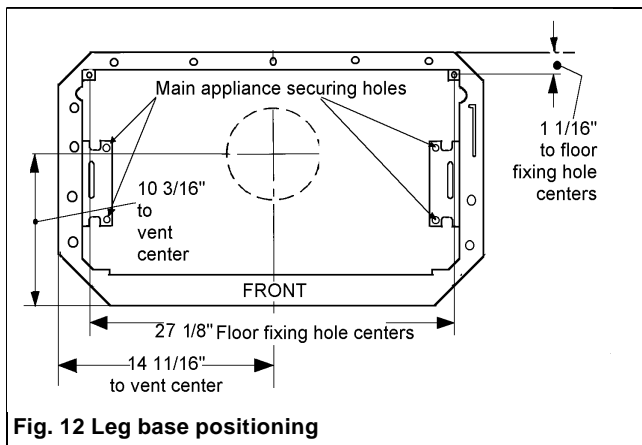

Fig. 12 Leg base positioning
- 9.2.3 Place the base in position (see figure 12). The rear of the base may touch the wall but a slight gap is advisable to stop the stove top from scraping the wall when placing it on the base.
- 9.2.8 Place the main appliance unit over the base, align the securing holes (see figure 12). Secure with 4 machine screws.